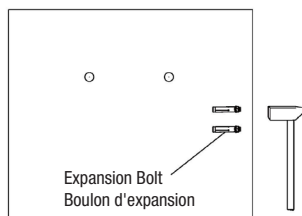
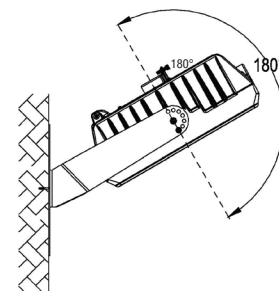

Figure 34
Figure 35
Step 2: Knock the expansion bolts into the wall. (Figure 34). Connect the fixture to the bracket and tighten the screws (Figure 35).
Notice: Adjustable angle is 0-180°. (Figure 35).